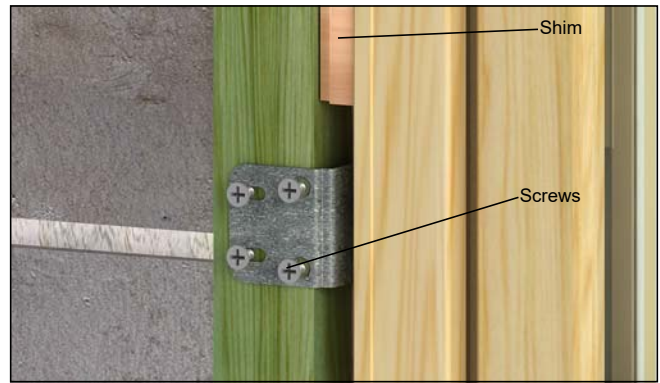

Figure 10
2. Wrap brackets around the framing/buck/opening, fasten with two #8 x 1 1/2" screws. Angle the screws approximately 15° away from the window. Always shim above or behind installation brackets. See figure 10.